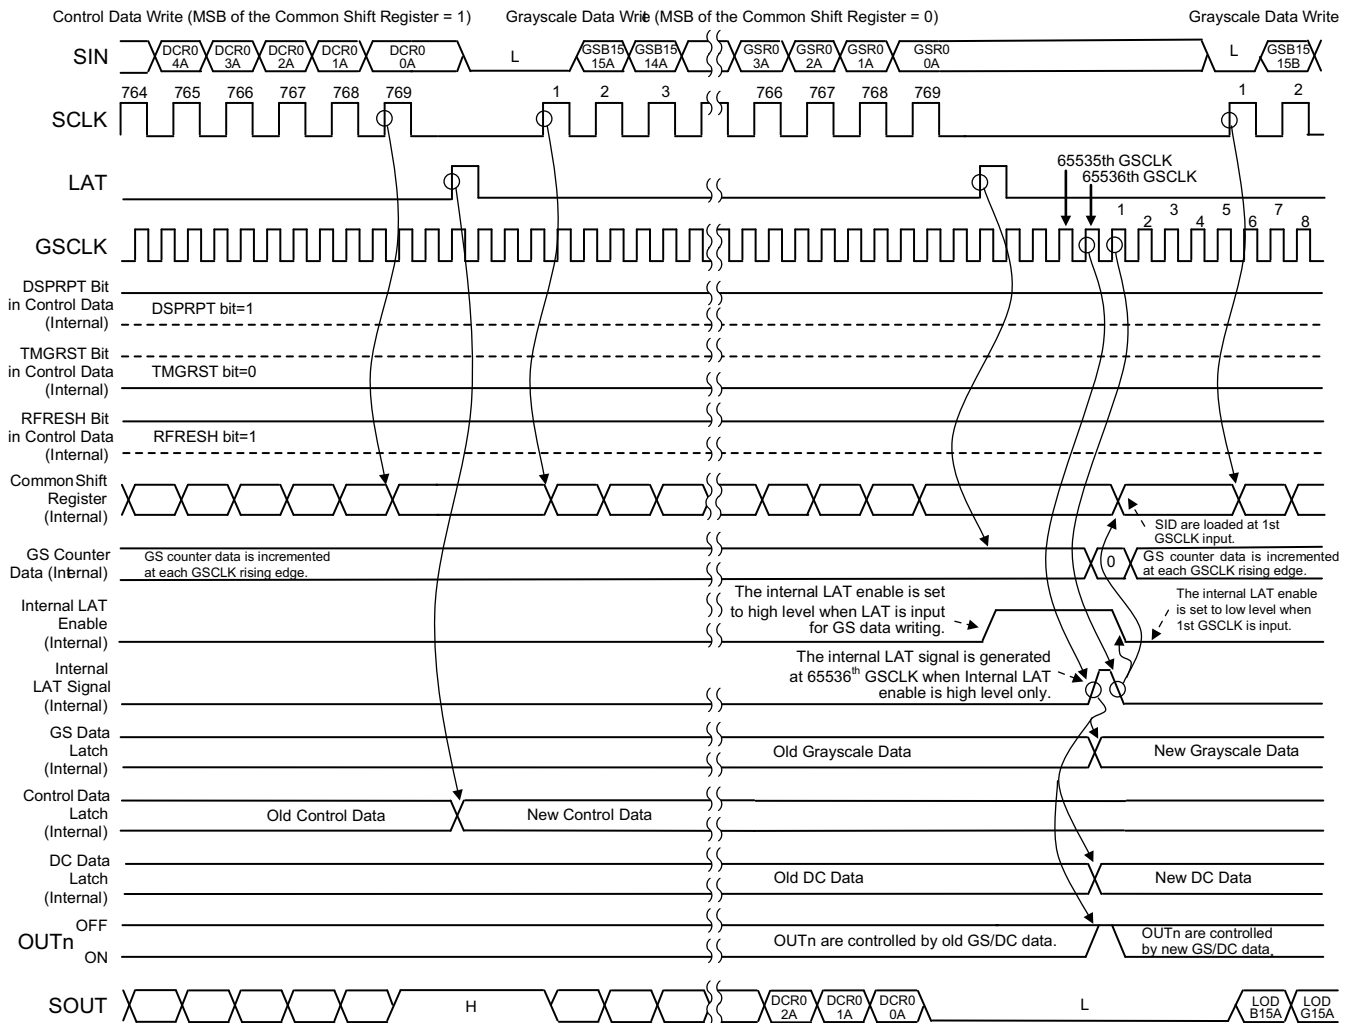
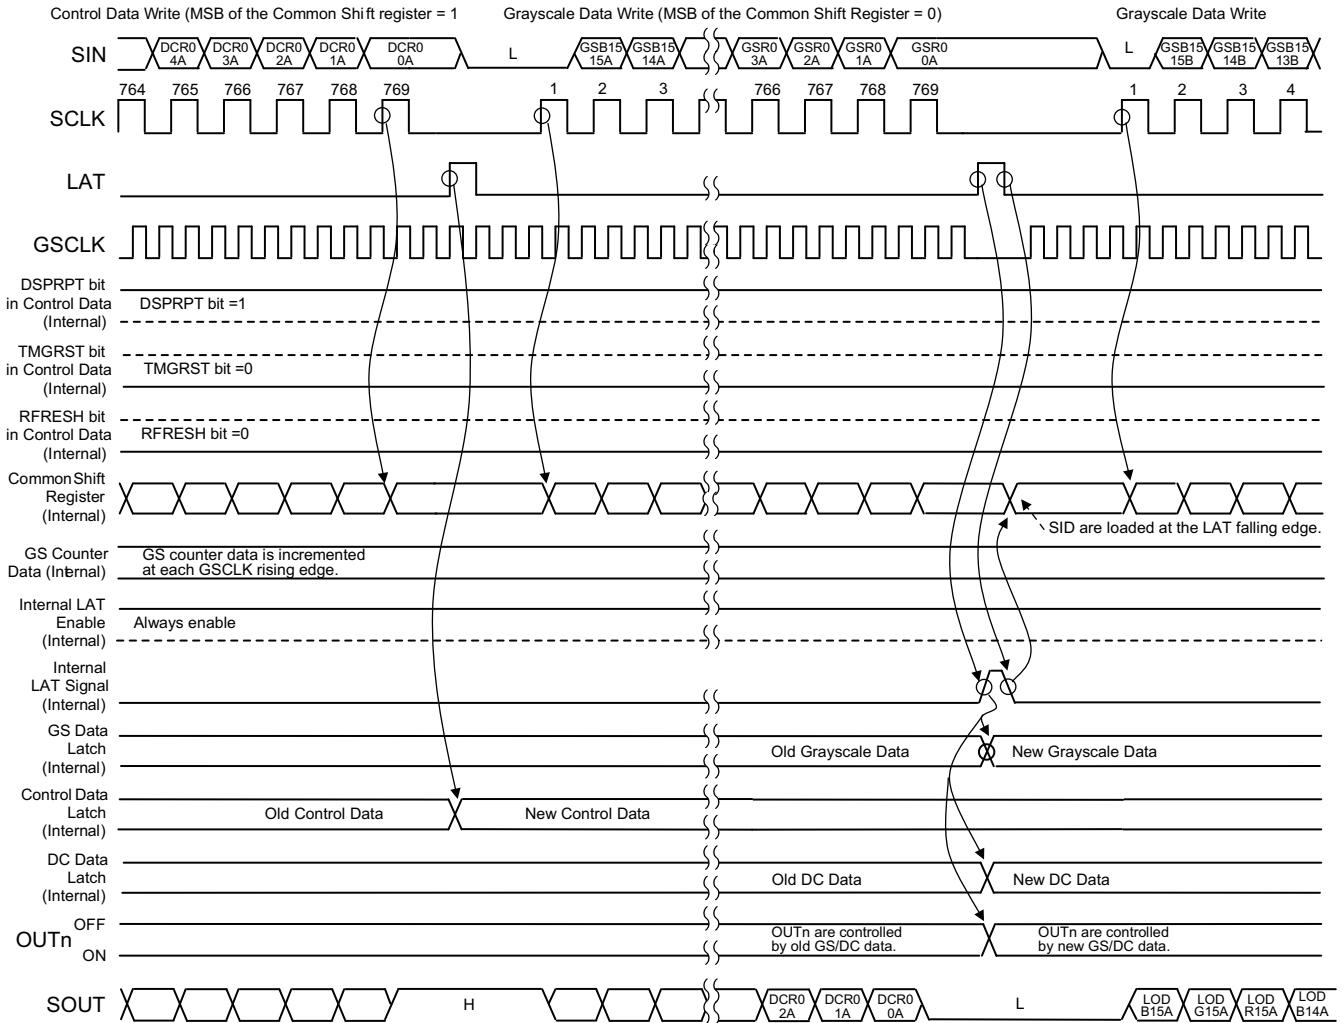

Figure 8-11. Auto Data Refresh Function 1 (DSPRPT = 1, TMGRST = 0, and RFRESH = 1)
Figure 8-12. Auto Data Refresh Function 2 (DSPRPT = 1, TMGRST = 0, and RFRESH = 0)
This function delays updating the grayscale (GS) and dot correction (DC) data until the end of one entire display period. If both DC data and GS data are written by the end of an entire display period, the input DC data are held in the control data latch and the GS data are held in the common shift register. Both DC and GS data are copied to the 336-bit DC data latch and 768-bit GS data latch at the end of an entire display period. The data latches are used for the next display period. GS data are directly copied from the common shift register to the GS data latch. Therefore, GS data must be written after the DC data are written. Furthermore, the GS data in the common shift resistor must not be changed until all data are copied to the GS data latch. Figure 8-11 and Figure 8-12 show timing diagrams for this function.